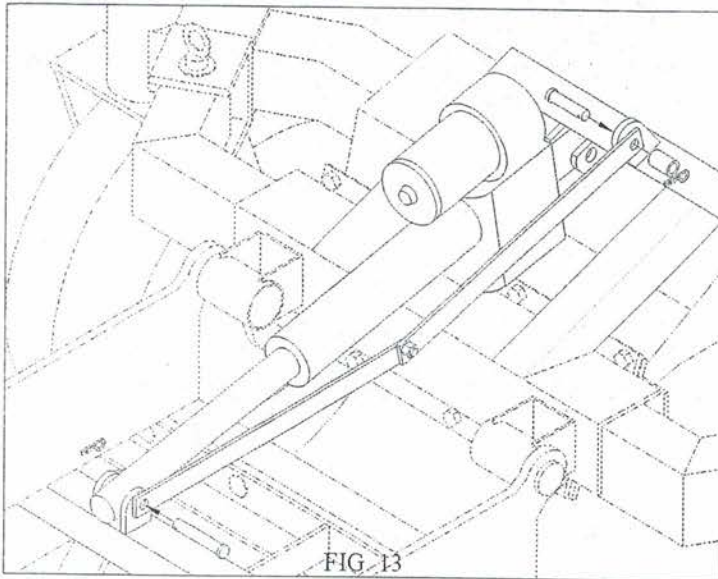

FIG. 13
11. Pin tractor side of cylinder to half clamp mount using the $\frac{1}{2}$ " x 2" clevis pin and hairclip cotter pin just removed. (Note: cylinder will have to be extended enough to reach this mount point). Slide $\frac{1}{2}$ " x 2" clevis pin thru tab and opposite end of stabilizer. Slide spacer (Key 27) over end of clevis pin and secure with hairpin cotter provided. **FIG. 13**